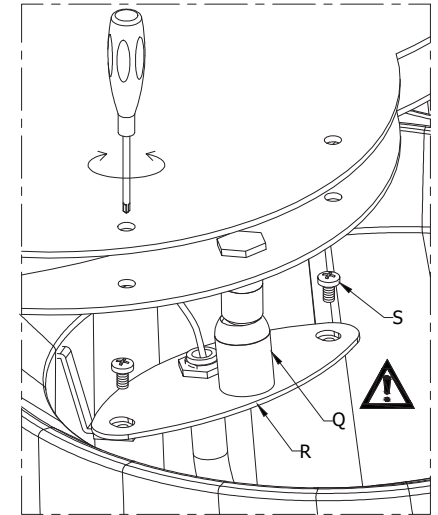

Fig.3
- For a perfect positioning of the lampshades the lamp is provided with a joint (Q) (Fig. 3).
- To regulate the lampshade catch with the hand the plate (R) and move slightly until the right positioning (Fig. 3).